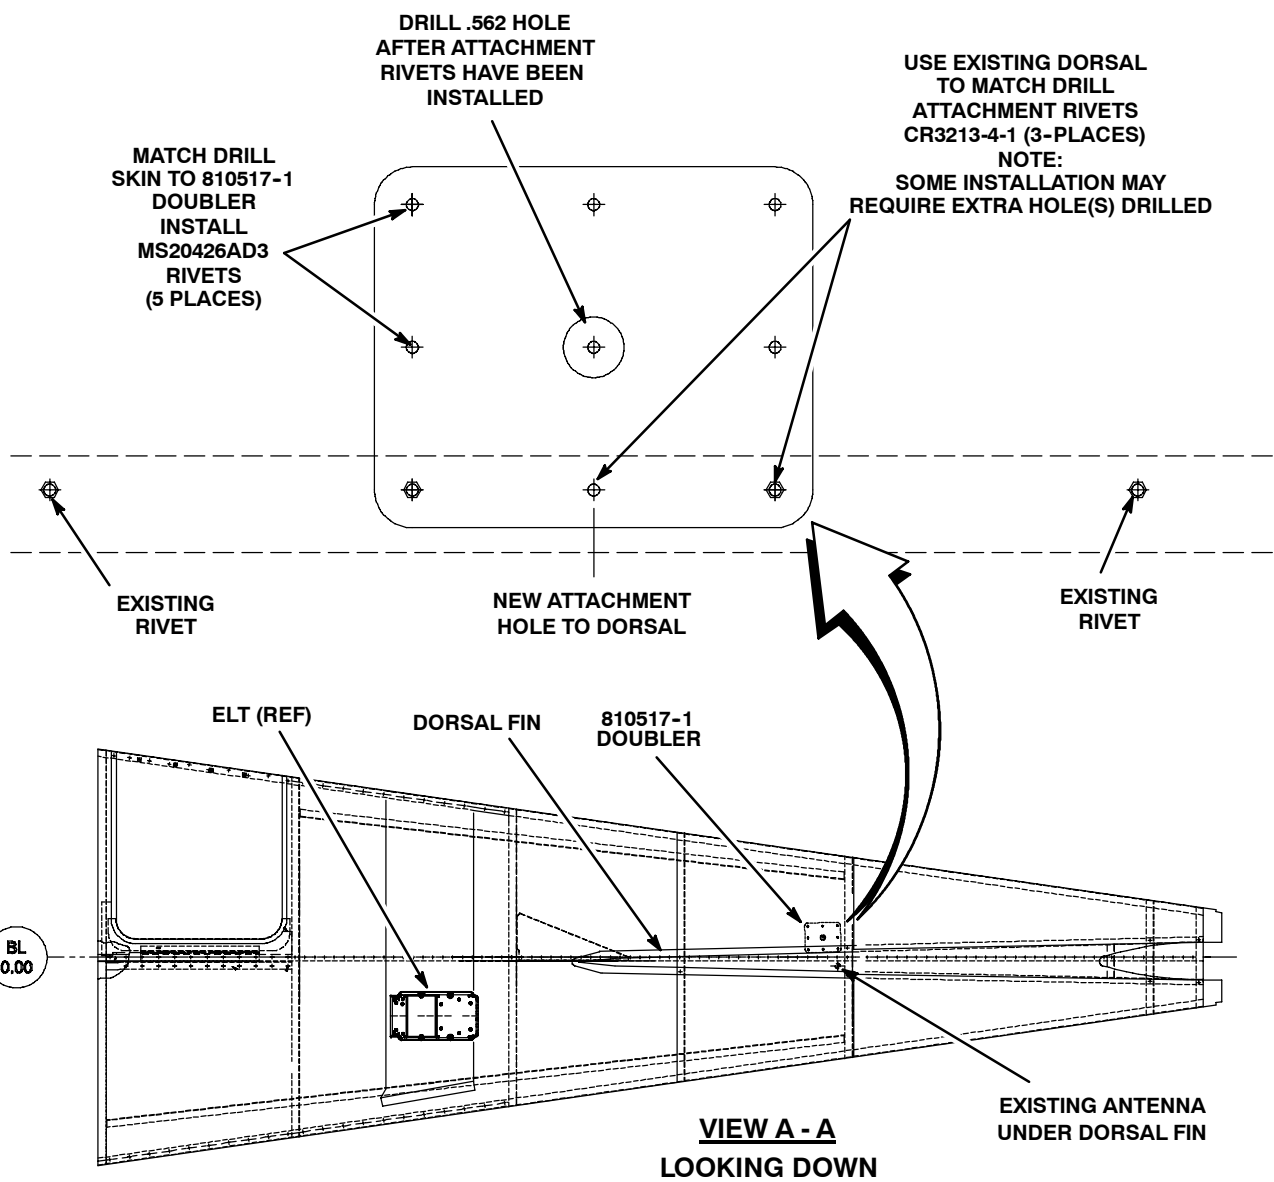

FIGURE 4 - 810517-1 DOUBLER INSTALLATION - 406MHZ
STEP 2 - ELT 406MHz ANTENNA INSTALLATION 940180-501: (refer to Figures 4, 5)
- 2.5 On dorsal mounted antennas, remove 2 Avex rivets mounting dorsal fin as described in Figure 4.
Models M20, M20A, B, C, D, E, F, G and some M20J have different or no dorsal fin. Locate 810517-1 Doubler to location shown in Figure 4.
- 2.8 Install 810517-1 Doubler using (3) CR3213-4-(x) Rivets (see in Figure 4).
- 2.12 Install 110-773 Antenna assembly using hardware from kit and torque 25 to 30 in lbs. Make sure rubber washer is mounted to the exterior of the skin (see Figure 4).